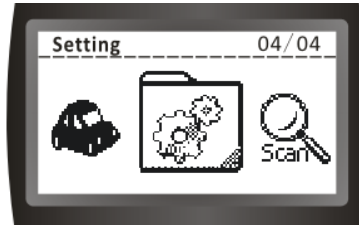

Figure 7
- 4、 Press  button, the screen will change to: " System setting" (Figure 7)